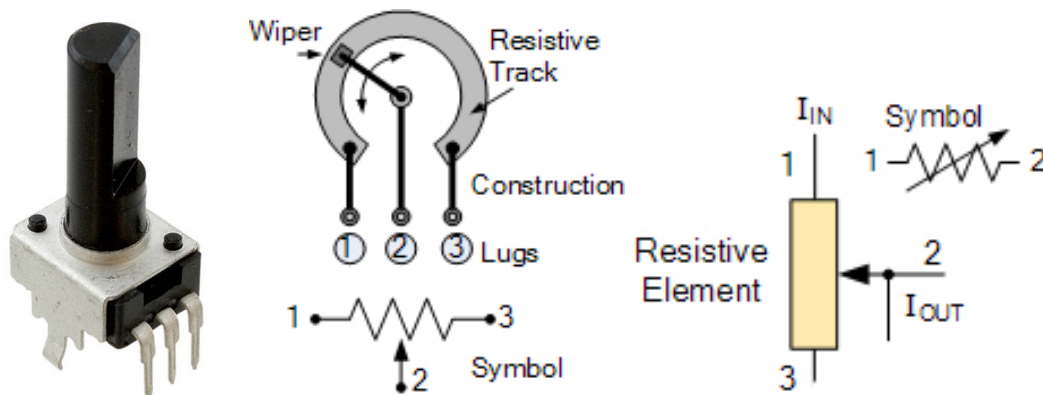

Figure 3: Potentiometer as a variable resistor.
When used as a variable resistor, connections are made to only one end of the resistive track (either pin 1 or pin 3) and the wiper (pin 2) as shown in Figure 3 on the right. The position of the wiper is used to vary or change the amount of effective resistance connected between itself, the movable contact, and the stationary fixed end.
**Note:** To make the 3 pins of the potentiometers (shown in Figure 3) fit into the breadboard, you can remove the metal clips on the sides of the component, or just simply fold them up.